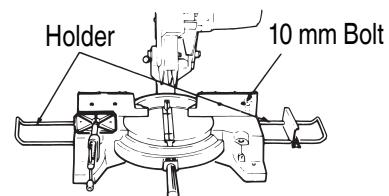

Fig. 4
2. Installation of holder (Fig. 4)